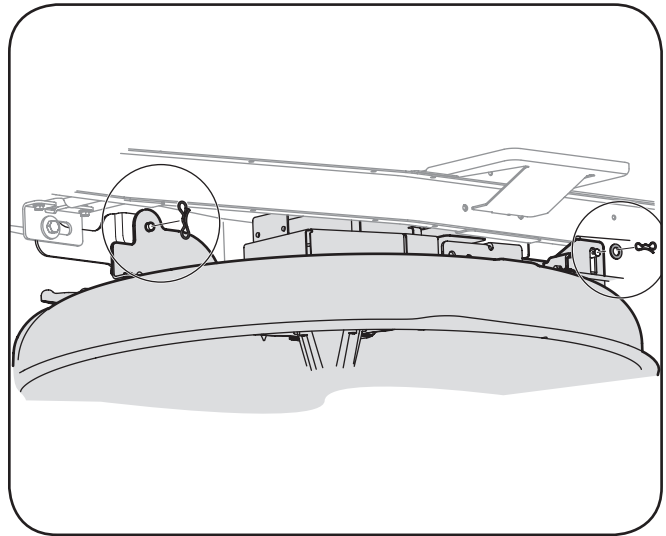

Figure 7-3
5. Remove the remaining bow-tie cotter pins securing the deck to the unit, as shown in Fig. 7-3.